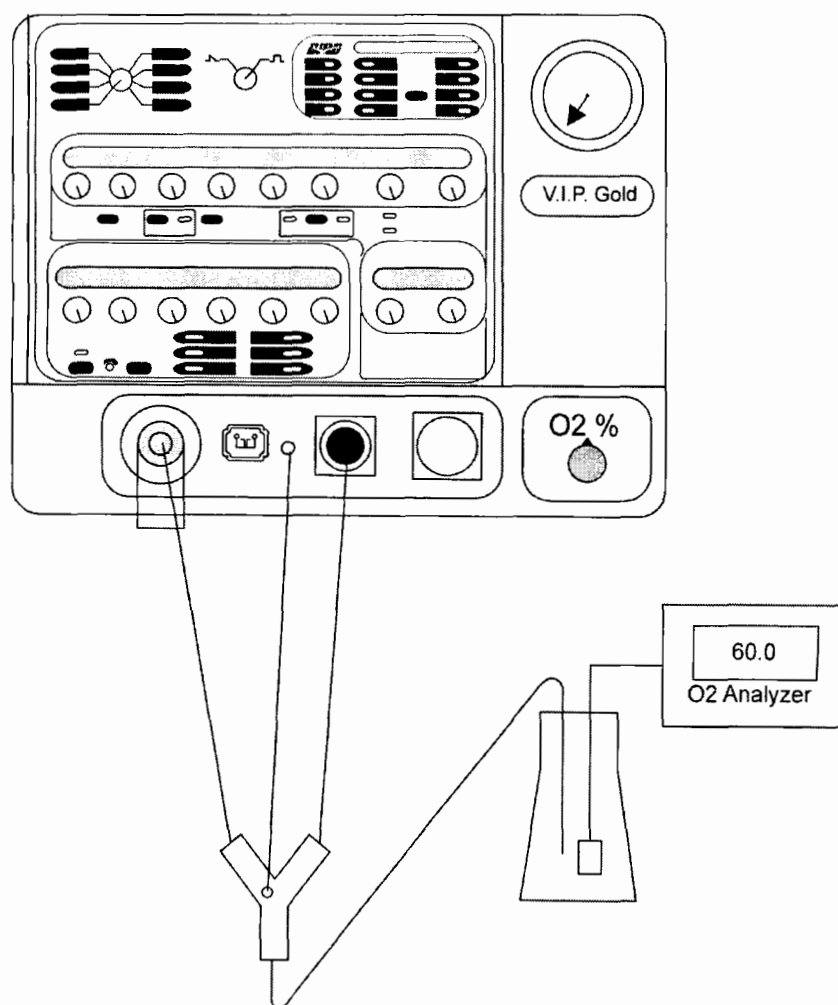

Figure 5.16
- 39.2 Connect the oxygen sampling hose to the patient wye (See Figure 5.16). Put the other end of the sampling hose into the sampling container. Connect your Oxygen analyzer to the sampling container. Your oxygen analyzer should be calibrated to manufacture specifications.